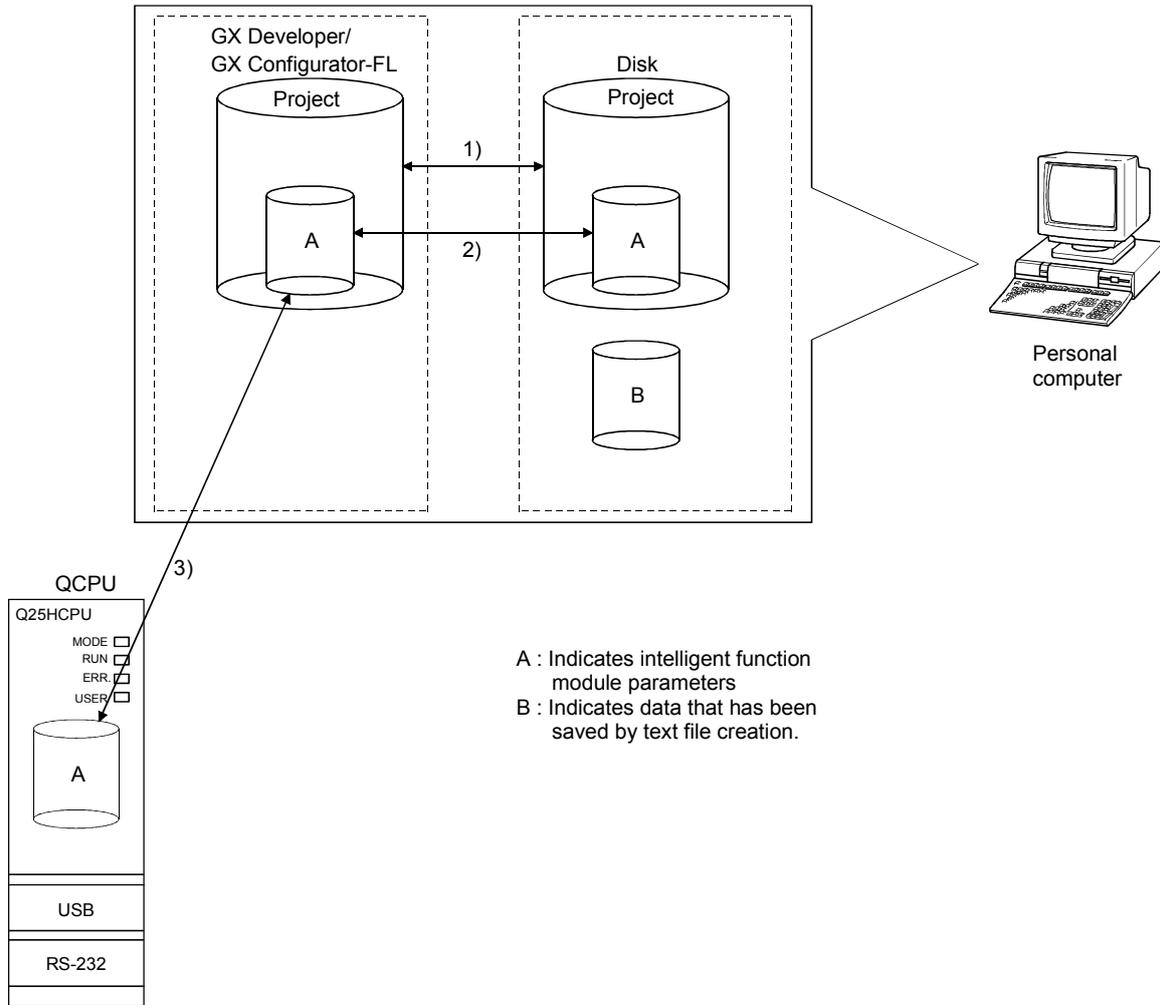

Fig. 6-1 Interrelational drawing of data created by GX Configurator-FL
The data/file shown below created using GX Configurator-FL can also be used for GX Developer operations. Refer to Fig. 6.1 to see the relationship between the data/files and the operations they can be used in.
- (b) The operations shown in Fig. 6.1 are performed using the following steps.